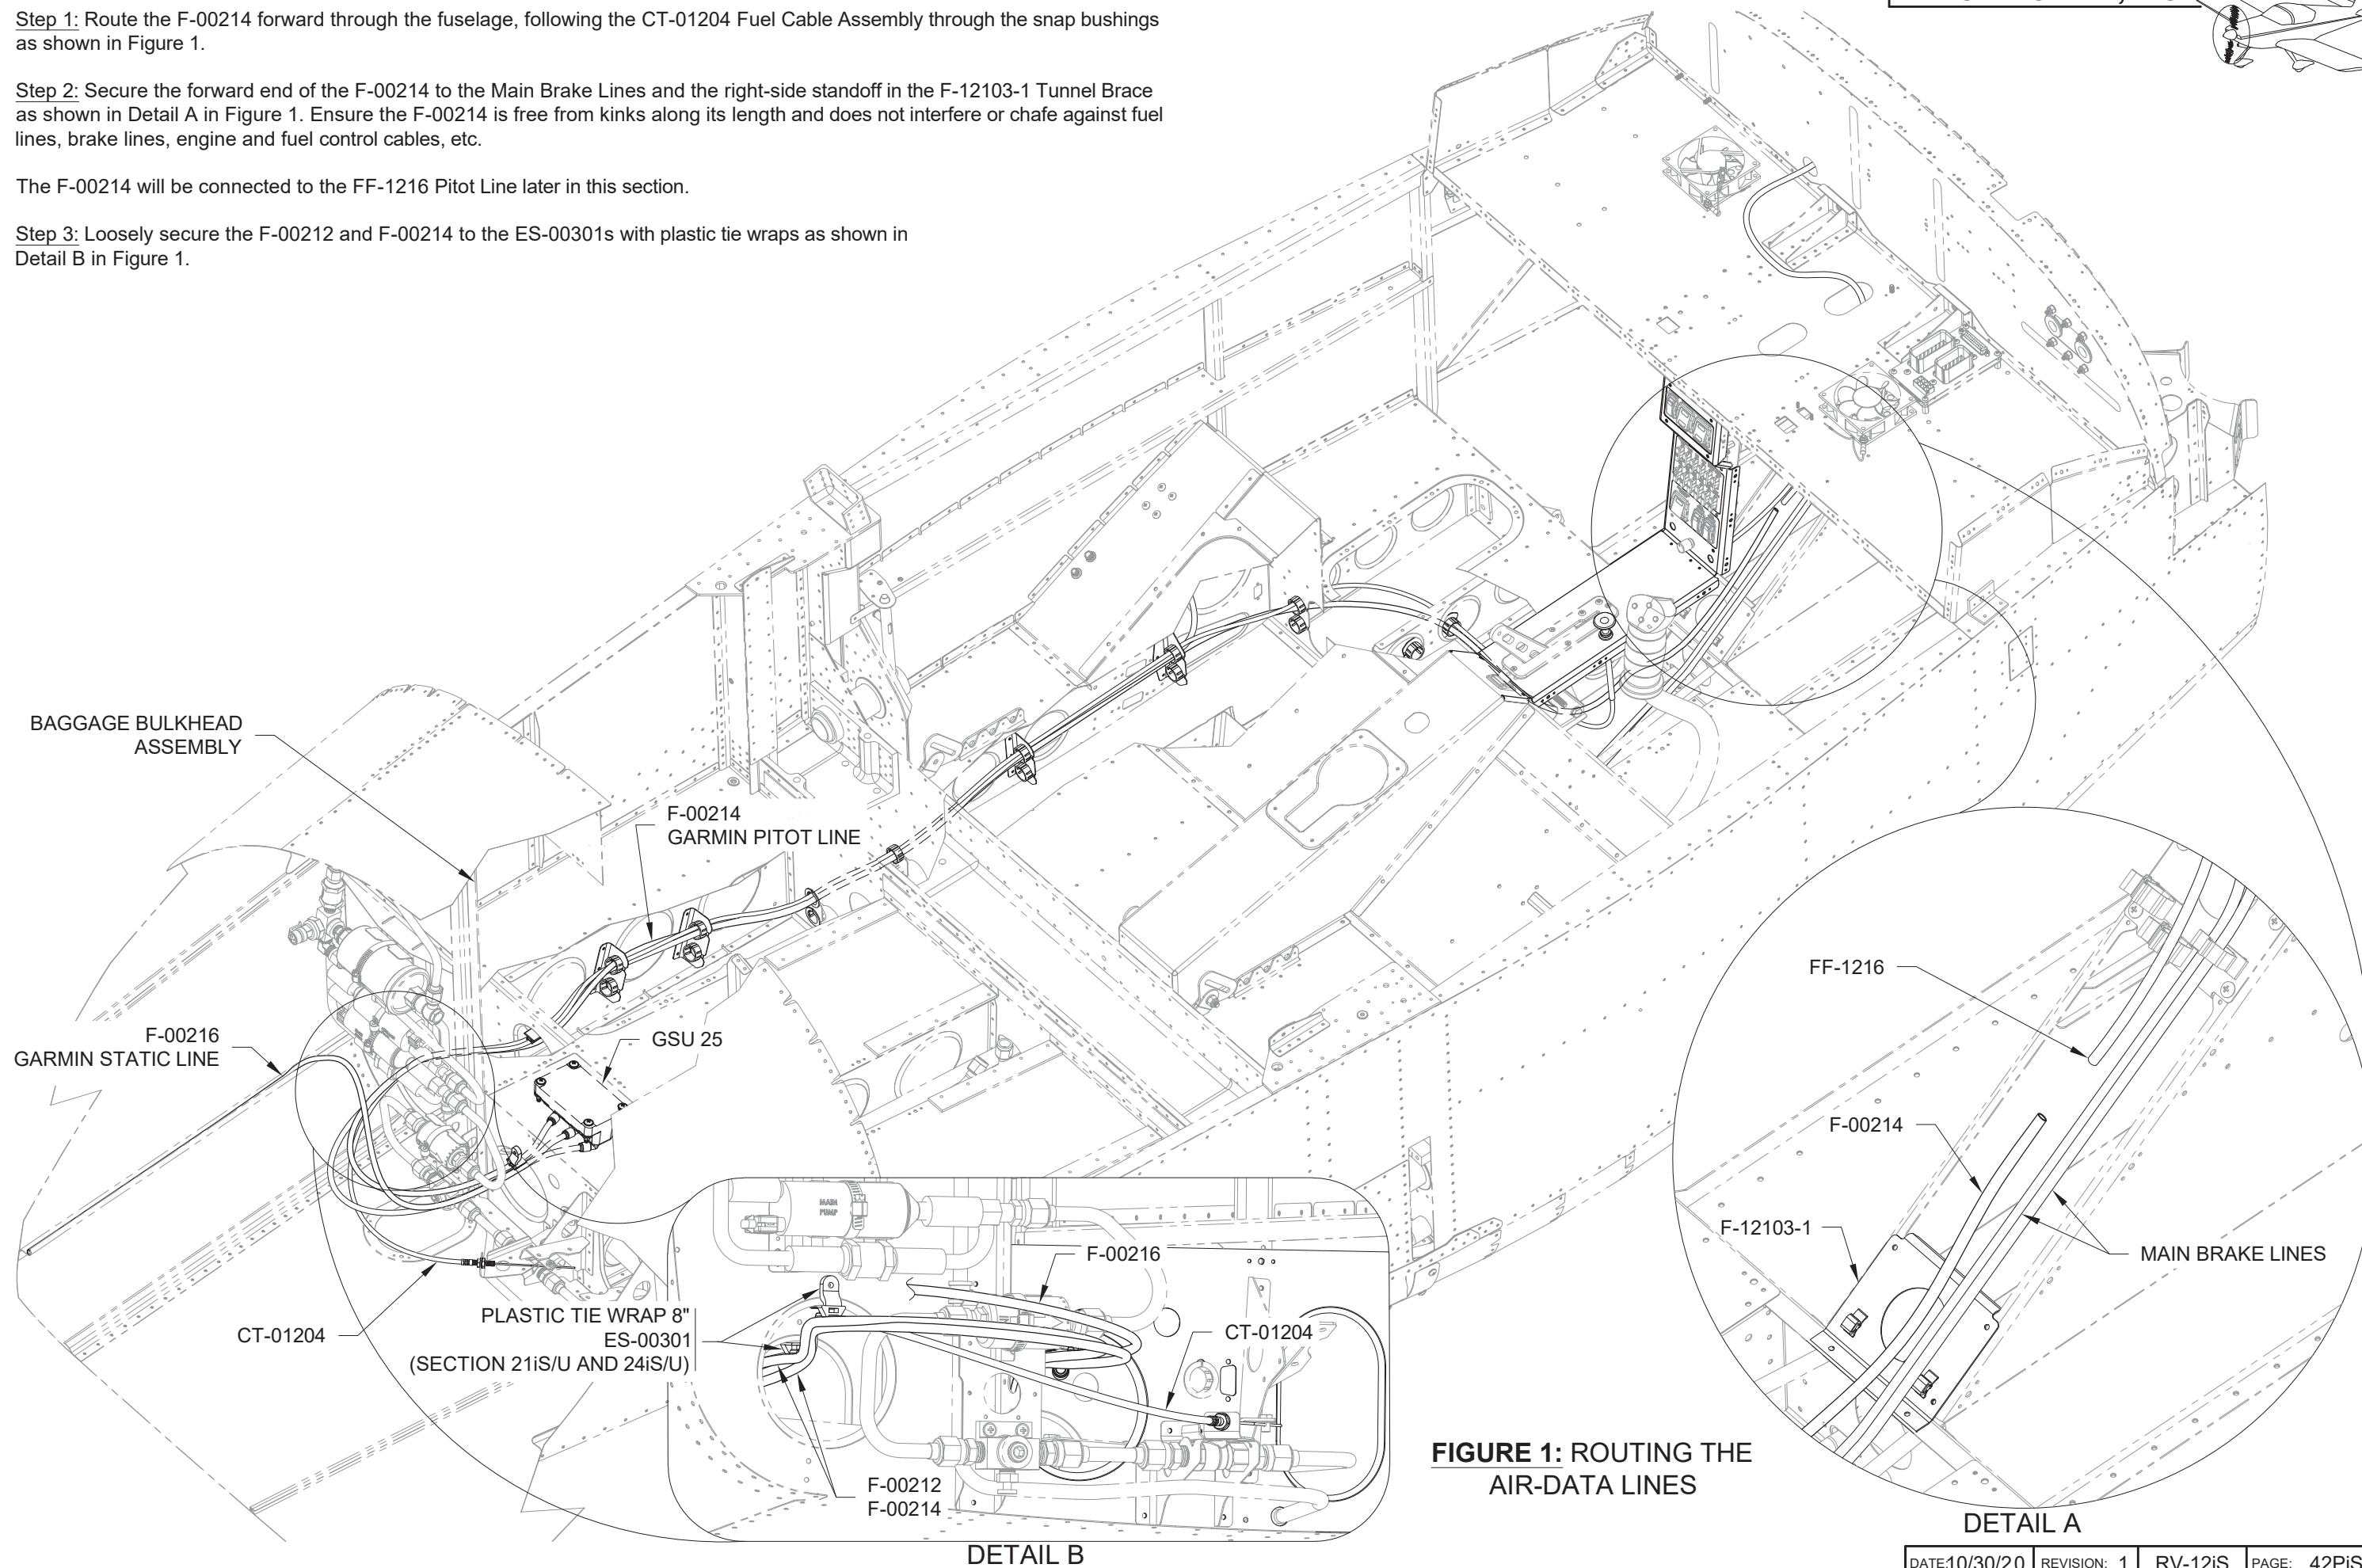

FIGURE 1: ROUTING THE AIR-DATA LINES
Step 3: Loosely secure the F-00212 and F-00214 to the ES-00301s with plastic tie wraps as shown in Detail B in Figure 1.
Step 1: Cleco the F-00063 Doubler to the aft side of the F-01202B-1 Panel Base flange as shown in Figure 1.